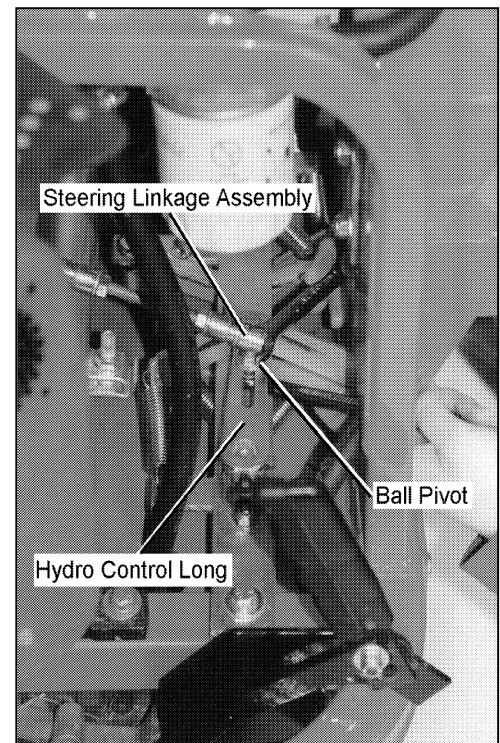

Figure 5
3. Adjust the left tire speed to the right tire (*Figure 5*):